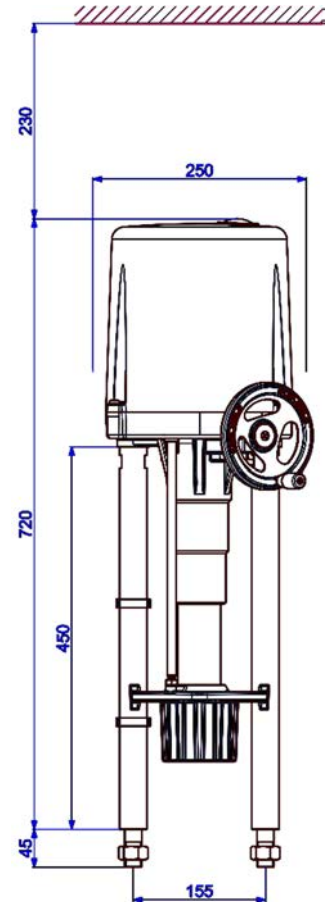

Figure 1: Installation dimensions
- When installing the actuators, leave enough space to allow cover removal (Fig.1).